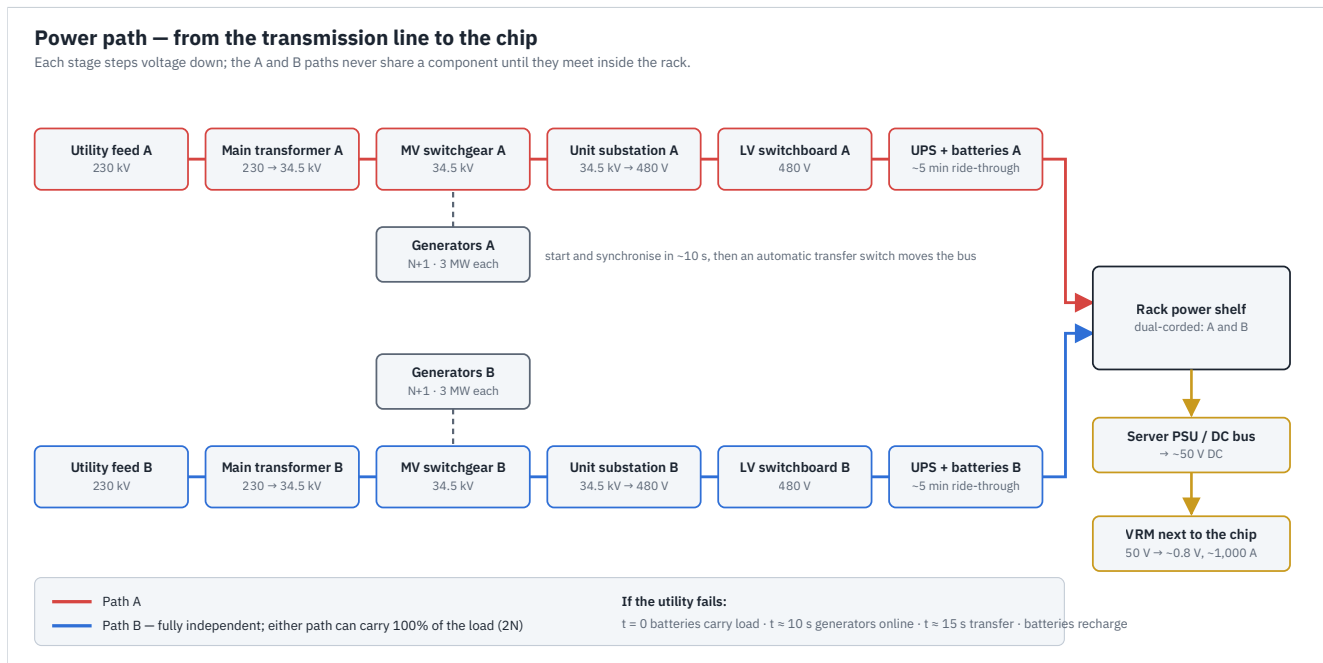

Figure 3 — The power path from the transmission line to the chip, with two fully independent paths (A and B) that meet only inside the rack.
Electricity reaches a large campus at transmission voltage, usually 115–345 kV. Inside the fence it is stepped down in stages until it reaches the chip at under one volt. Figure 3 shows the chain.
- **2N**: two complete, independent systems, each able to carry the whole load (the A and B paths in Figure 3).